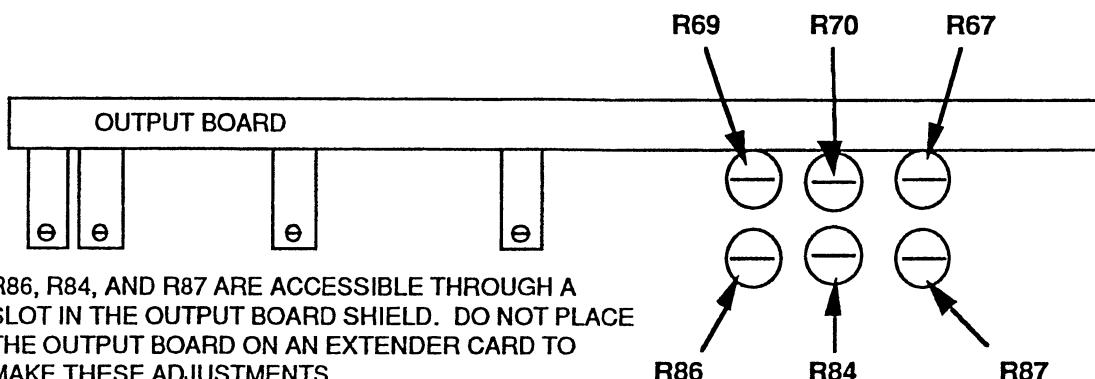

Figure 4-17. R67, R69, R70, R84, R86, and R87 Locator
2. Slide the cover back. Adjust R67, R69, R70, R84, R86, and R87 on the output board (see figure 4-17) for best time symmetry and aberrations. The leading and trailing edge transition time must be less than 7.5ns. Transition time is measured between the 10% and 90% points of the square wave. Aberration must be less than 4%. The Model 95 unbalanced output must be terminated with 3 feet of coax cable and the cable terminated with a 50Ω terminator for specified waveform quality. Slide the cover back on.